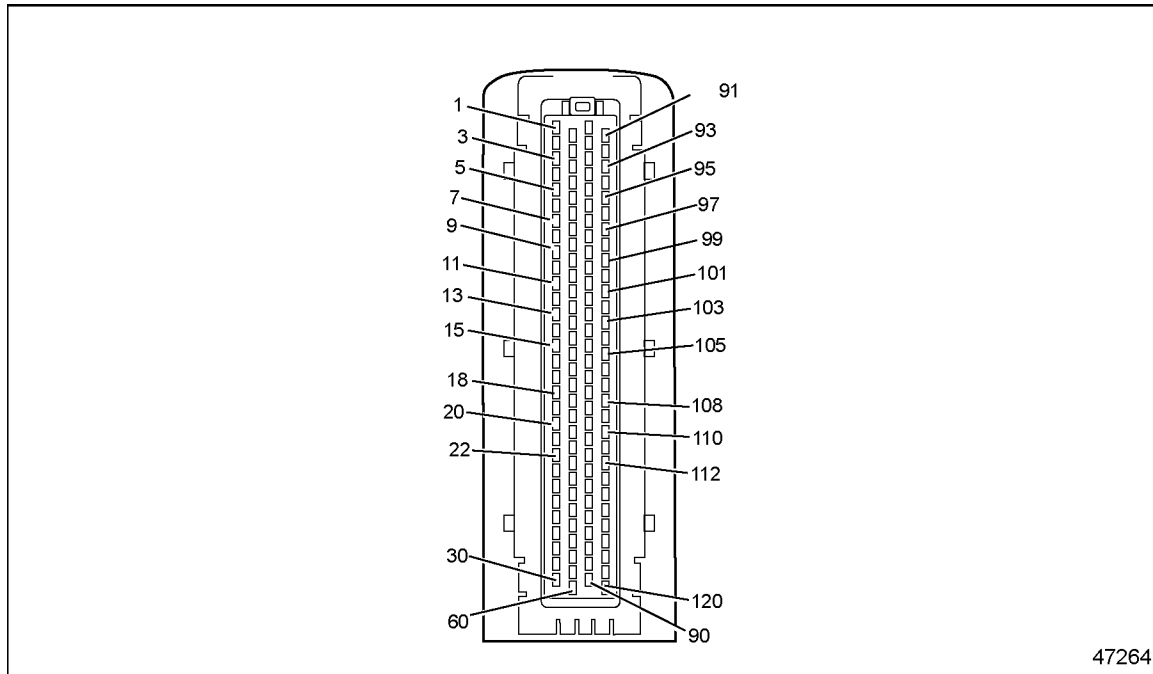

Figure 61-1 120-pin MCM Connector
7. Measure the resistance between pin 11 of the MCM 120-pin connector and pin 10 of the Front Injector Harness 12-pin connector. See Figure 61-1.
- [b] If the resistance is less than 3 Ω , repair the short to power between battery positive and pin 11 of the MCM 120-pin connector. See Figure 61-1. Refer to section 61.1.1.1.